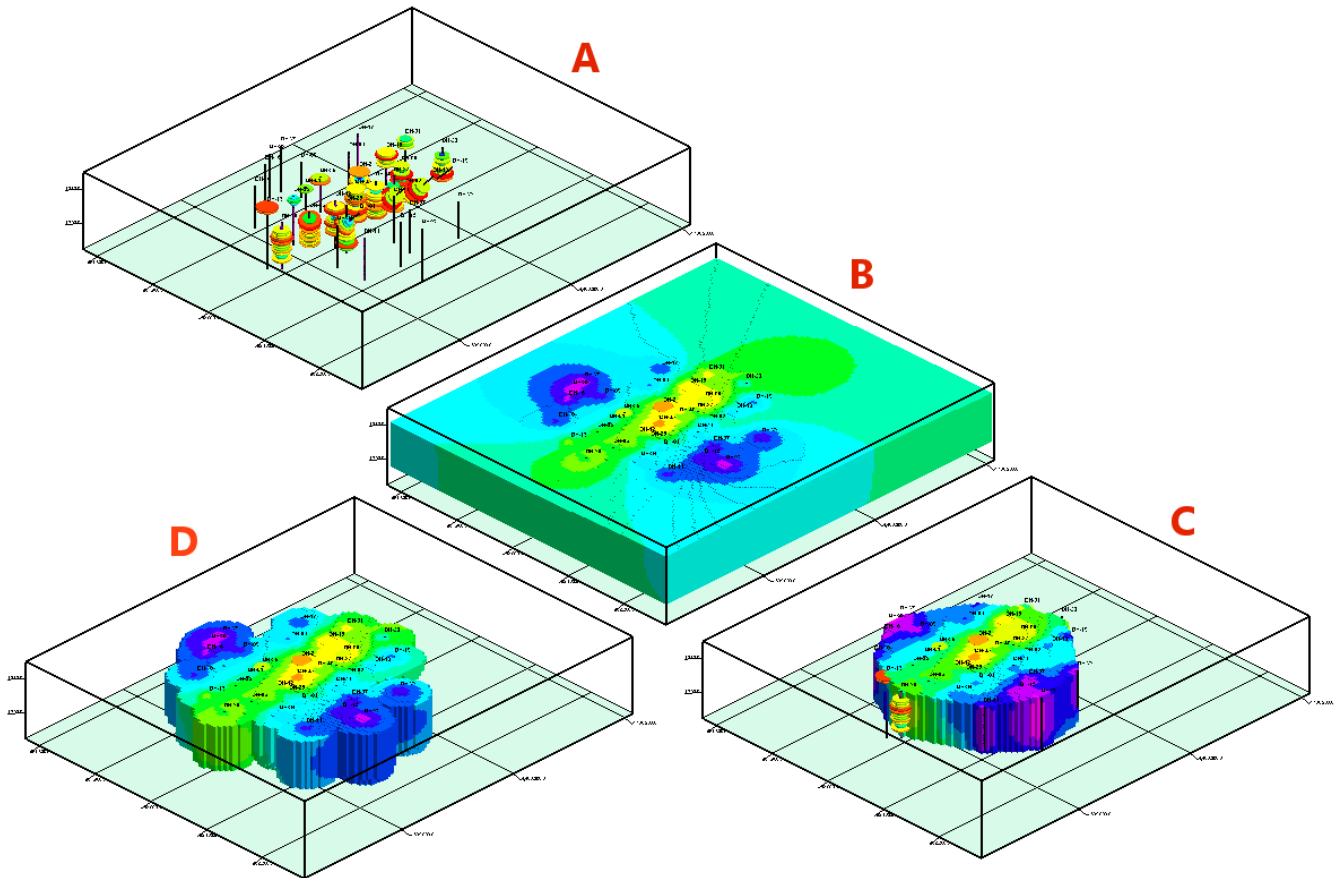

Figure 3. (A) Boreholes (B) Model w/o Convex Hull Truncation (C) Model w/Convex Hull Truncation (D) Model w/Distance Truncation
- **Lateral Interpolation Constraints:** Modeling algorithms can be very creative when data is sparse. Extending models too far outside the region occupied by control points is scientifically questionable and implicitly diminishes the credibility of the presentation. RockWare offers some simple methods for limiting the lateral extents of the interpolation such as arbitrary distance cutoff filters and convex hull truncation (Figure 3) that can be used to limit the modeling.